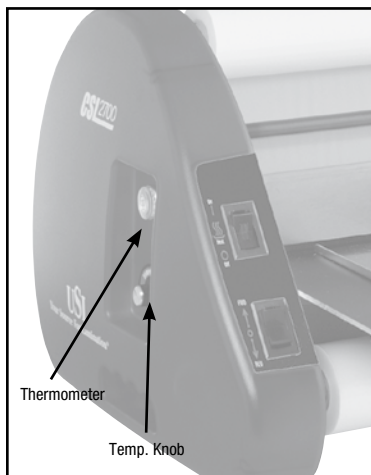

Figure 16-1
2. Remove the left side housing. First remove the thermometer & temperature knob (shown in figure 16-1). The temperature knob has a small Allen head set screw retaining it. Then remove the housing by unscrewing 4 Allen head screws. Set housing assembly aside.